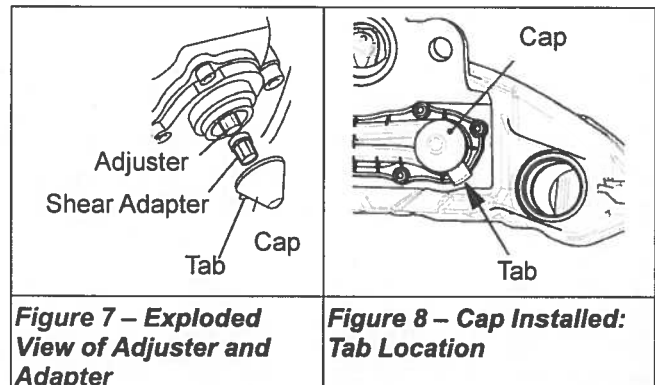

Figure 7 – Exploded View of Adjuster and Adapter
2. For illustration purposes, the exploded view (Figure 7) shows the adjuster and shear adapter separated. When using the adjuster mechanism, always have the shear adapter installed on the adjuster.